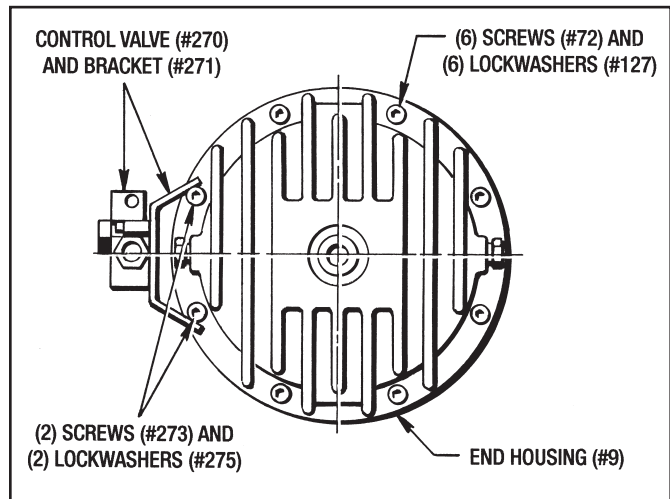

Figure 9.8 - Attaching End Housing (#9)
3. Attach the End Housing with (6) Screws (#72) and (6) Lockwashers (#127). **Torque to 25 Ft. Lbs.**
NOTE: Leave the (2) mounting holes empty where the Mounting Bracket (#271) attaches to. (See Figure 9.8)